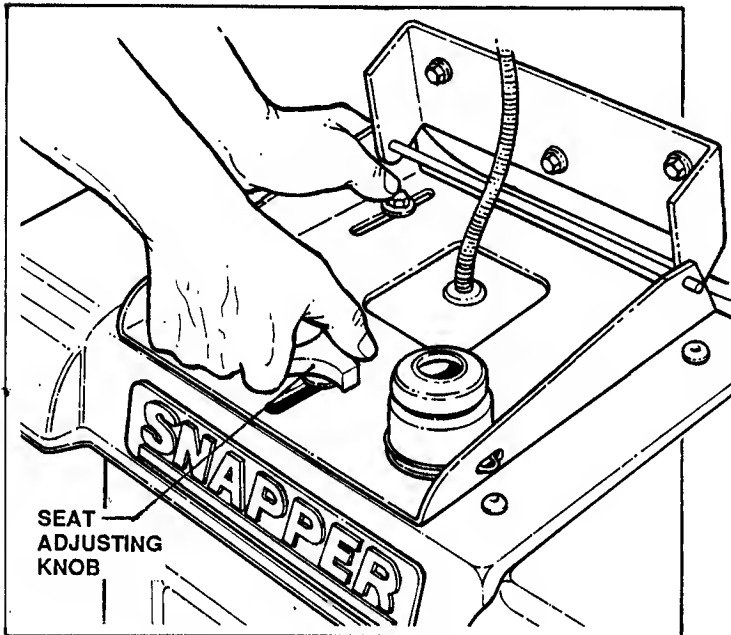

FIGURE 8
- RE-ADJUST SEAT as needed to most comfortable position. (Refer to Pages 5 & 6, Figure 8)
FORE & AFT ADJUSTMENT: With machine stopped, loosen the ADJUSTING KNOB on seat support. Sit in operators seat and, while depressing the CLUTCH/BRAKE PEDAL, slide the seat forward or rearward to the most comfortable position, then lock in position by tightening ADJUSTING KNOB. See Figure 8.